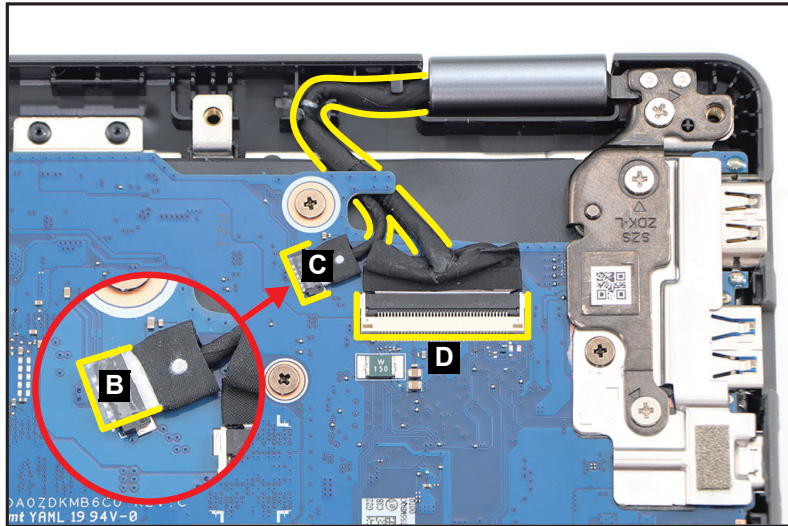

Figure 1-19. LCD Module Removal
2. Detach the mylar (B) securing the LCD cable connection. Then disconnect the cable from the mainboard connector (G-sensor) (C) (Figure 1-19).
3. Disconnect another LCD cable from the mainboard connector (D). Then unroute the cable from the cable guides as shown in Figure 1-19.